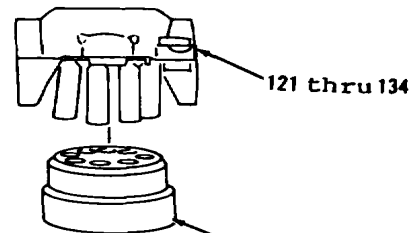

Figure 10-41.
- 58. Remove items 121 thru 134 as an assembly from barrel (138, Figure 10-41).